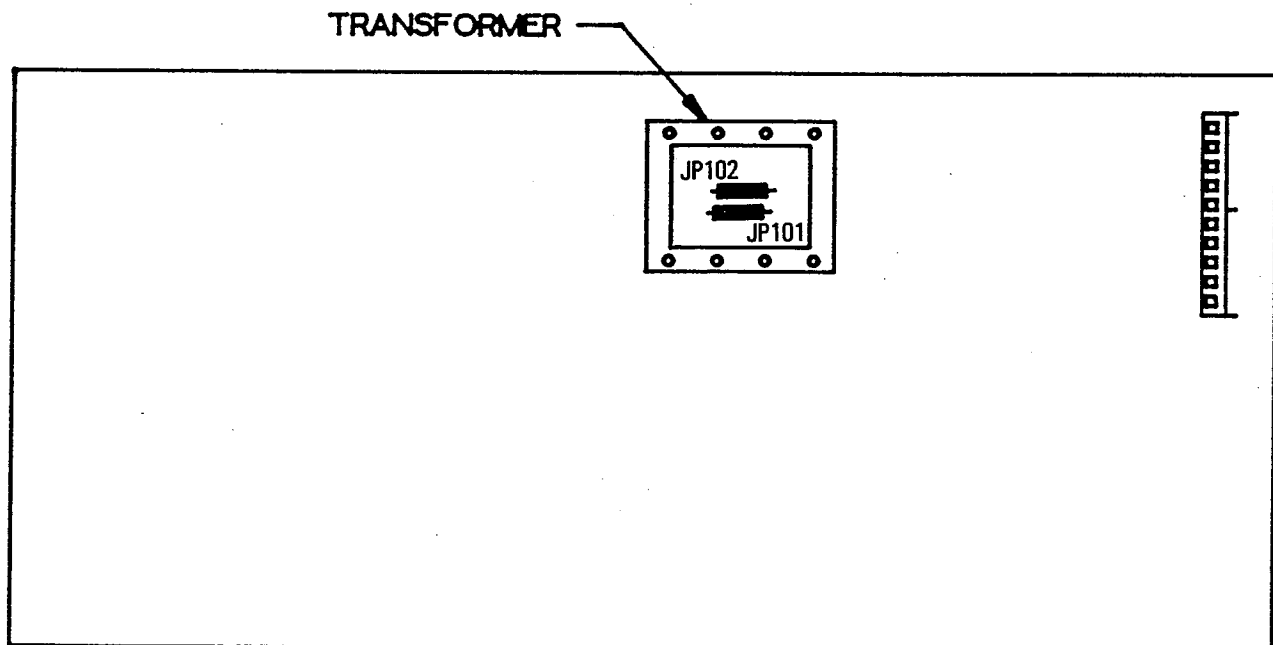

Fig. 2-6 – Model 160X Main Circuit Board
4. Referring to Figure 2-6, find the location on the 160X's circuit board for the mounting location of the transformer. Within the transformer-mounting area are two jumpers (JP101 and JP102). Cut or unsolder these jumpers.